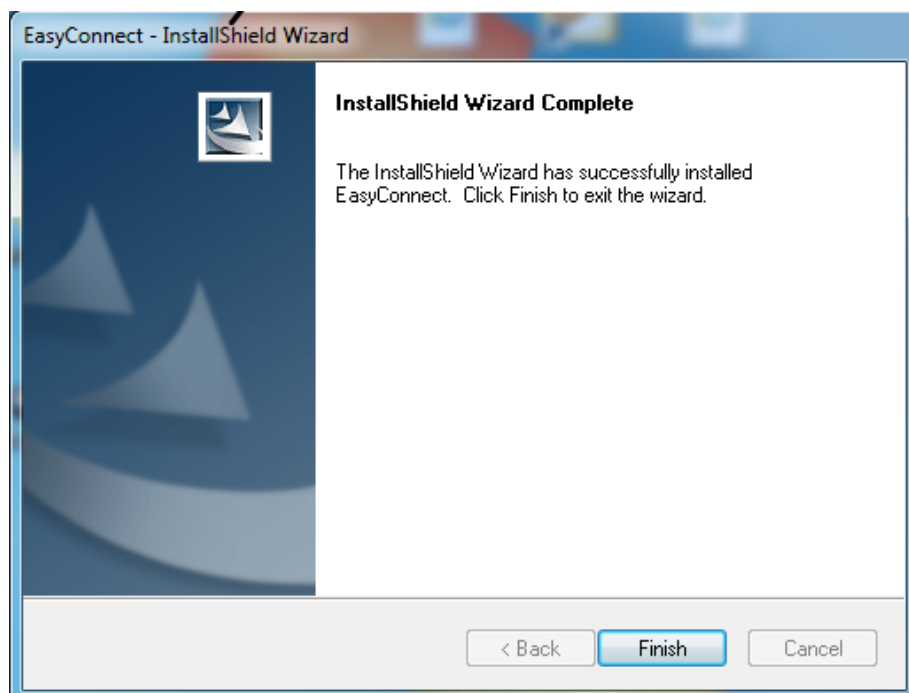

Figure E-10: InstallShield Wizard Complete
8. The 'InstallShield Wizard Complete' window displays as shown in Figure E-10. Click **Finish** to exit the Wizard.